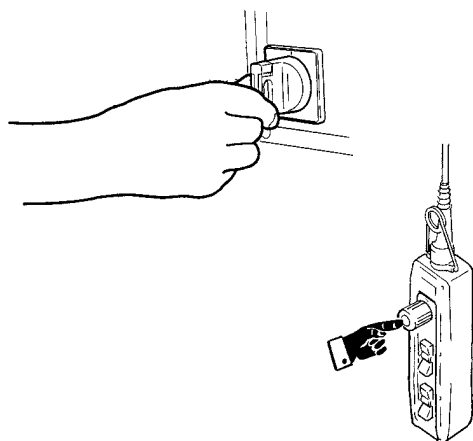

fig. 163
- Remove the live current to the trolley pushing the emergency stop button -1-; put the lever of the disconnecting switch in the "O" or "OFF" position, reach the working zone safely, bringing to a height the push-button panel to prevent it being activated from the ground (fig. 163).